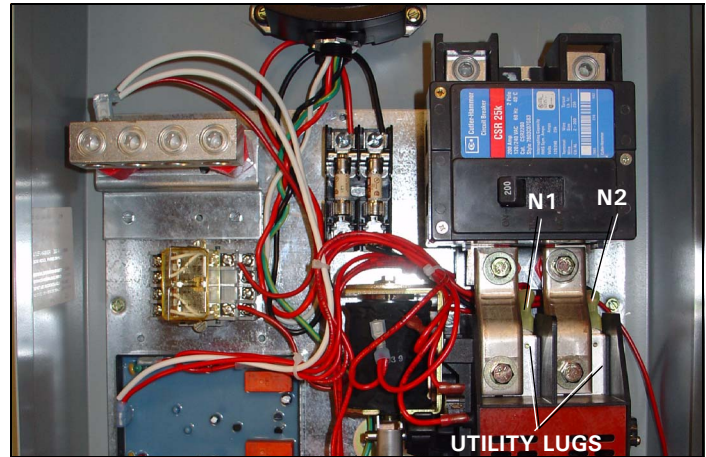

Figure 71. Connection Points at the TVSS Fuse Block and Utility Lugs.
Step 13: Using the wires cut from the red and black TVSS wires in Step 7 (if long enough), or 600 V 14 AWG wire, make two (2) wire leads that will run from the TVSS fuse block to the male spade connectors at the utility lugs on the contactor (see Figure 71).
Step 14: Remove the wiring harness connections at the male flag terminal at the N-1 utility lug. Remove the crimp on female flag connector. Strip 0.25 in. (6.35 mm) of insulation from the end of the TVSS wire and the N-1 harness wires. Using the new crimp-on female flag connector supplied, connect the N-1 harness wires with one of the TVSS leads (see Figure 71).